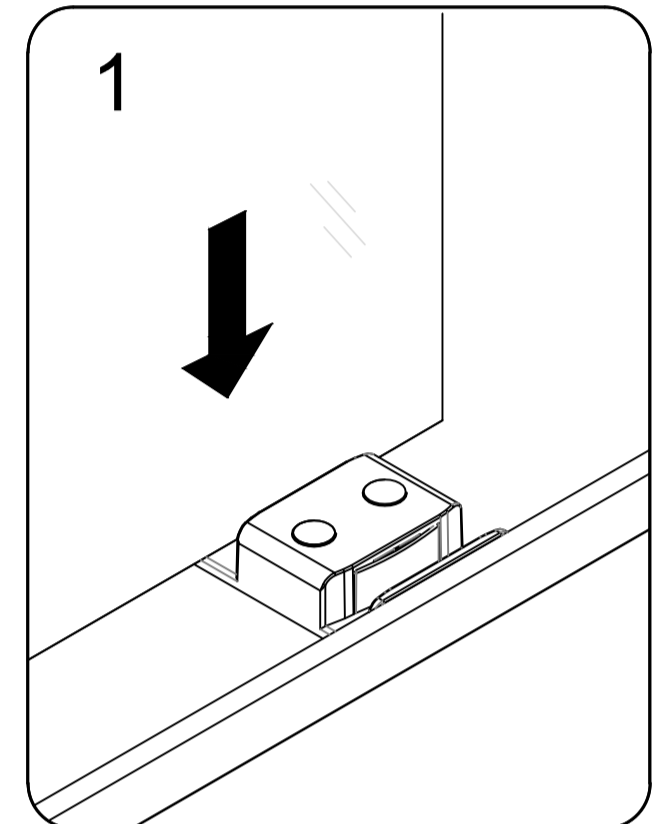

Fig.1
- 2. Also check the threshold for level and the walls for plumb.(Fig 1)
1. Insert the **Inside Door Panel(L)** into the **Bottom Guide(A)** as Fig 1.